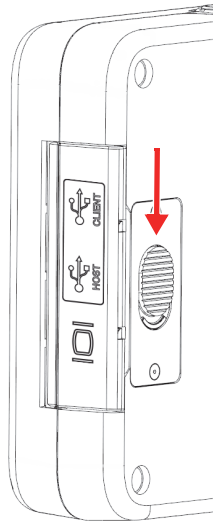

Figure 3-3 Data Port cover release button
1. Press the cover release button and slide it towards the bottom of the instrument to unlock the data port cover (see Figure 3-3 on page 44).